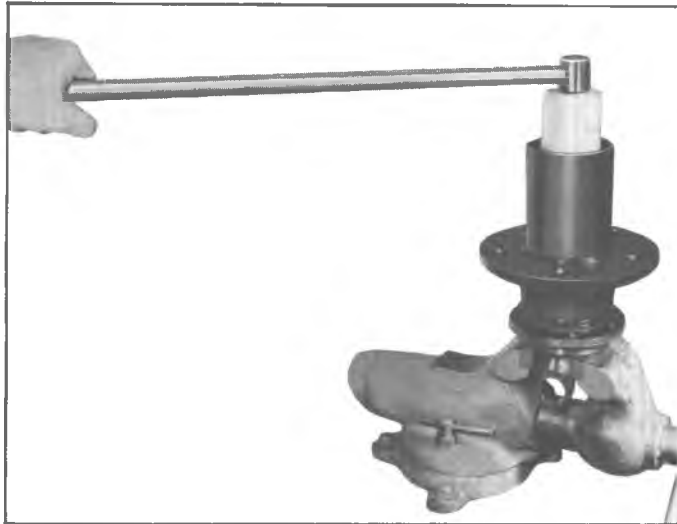

Fig. 58—Removing Wheel Bearings
4. Remove the wheel bearing outer lock nut, lock ring, and wheel bearing inner adjusting nut using Tool J-6893 and Adapter J-23446 or tool J-6893-01. (See fig. 58).